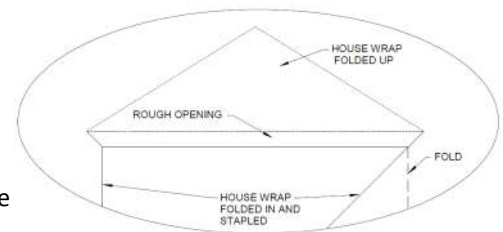

Fig. 1
5. At the header, cut the water resistive barrier at 45° and temporarily fold the barrier up and tape to the exterior. (Fig.1)
6. Fold the sides of the water resistive barrier into the rough opening and secure with staples. (Fig.1)